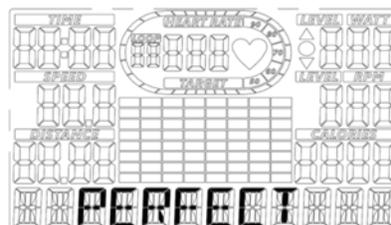
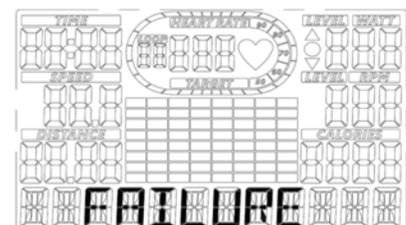

Fig. 45
Fig. 46
- This is the test item of your body according to the age input by the user and test time as a test result judgement. The testing target is DISTANCE 3miles. When finish, LCD will display the test result as shown in fig. 45. During the test, if "STOP" is pressed and quit, LCD will display "FAILURE" as shown in fig. 46.